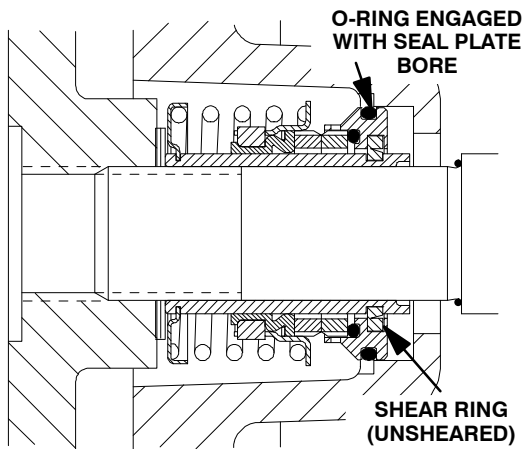

Figure 6. Seal Partially Installed
Clean and inspect the impeller as described in **Impeller Installation and Adjustment**. Install the full set of impeller shims (27) provided with the seal, and screw the impeller onto the shaft until it is seated against the seal (see Figure 6).